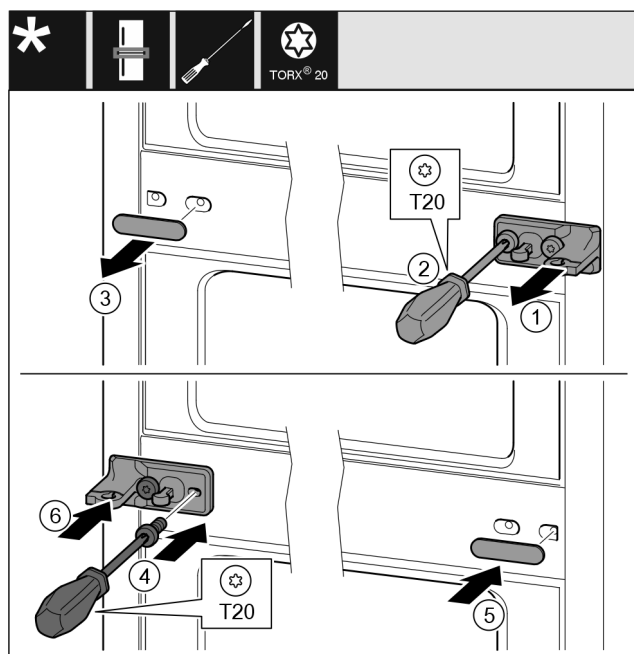

Fig. 31
- ▶ Remove the washer. Fig. 31 (1)
- ▶ Remove the screws with the T20 screwdriver. Fig. 31 (2)
- ▶ Remove the cover carefully. Fig. 31 (3)
- ▶ Screw the bearing bracket and the film rotated 180° firmly onto the other side. Fig. 31 (4)
- ▶ Attach the cover rotated 180° onto the other side. Fig. 31 (5)
- ▶ Push the washer in from the front. Fig. 31 (6)